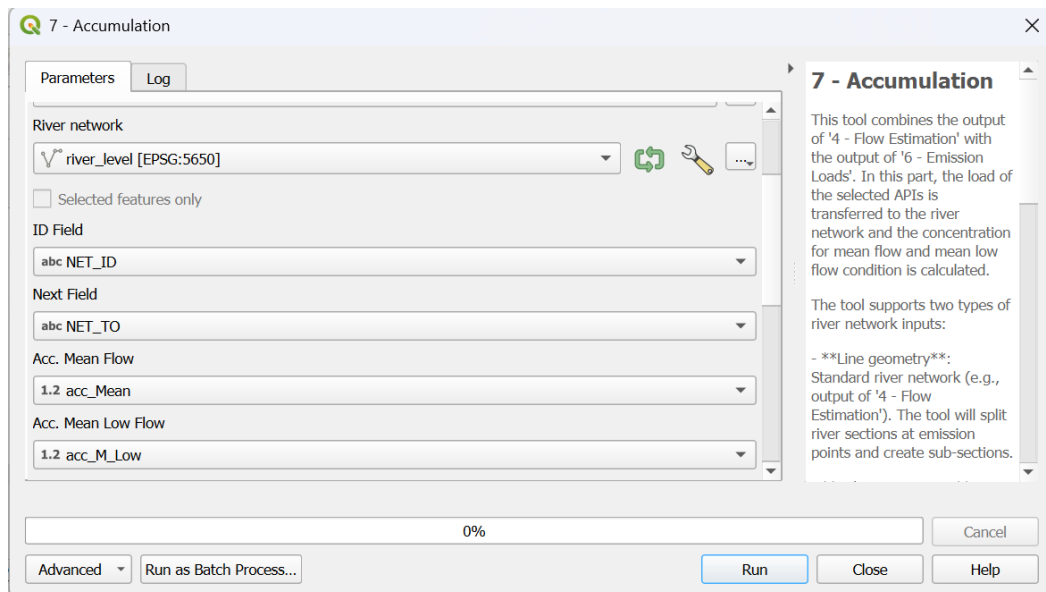

Figure 9. Configuration of the Accumulation tool (Part A)
5. Fill the following field as follow (Fig. 9):